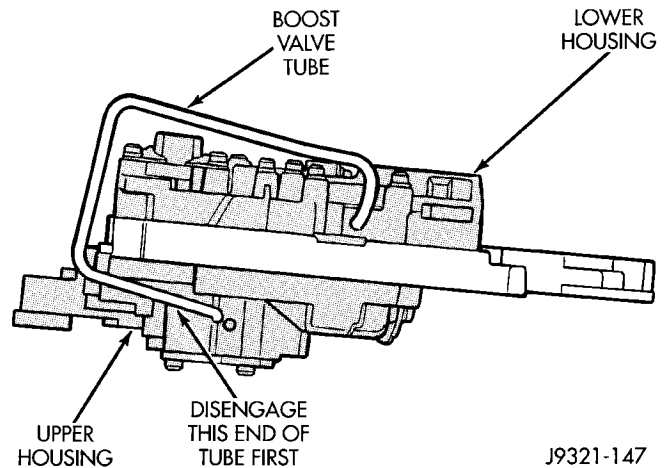

Fig. 59 Boost Valve Tube
(27) Remove boost valve connecting tube (Fig. 59). Disengage tube from upper housing port first. Then rock opposite end of tube back and forth to work it out of lower housing.